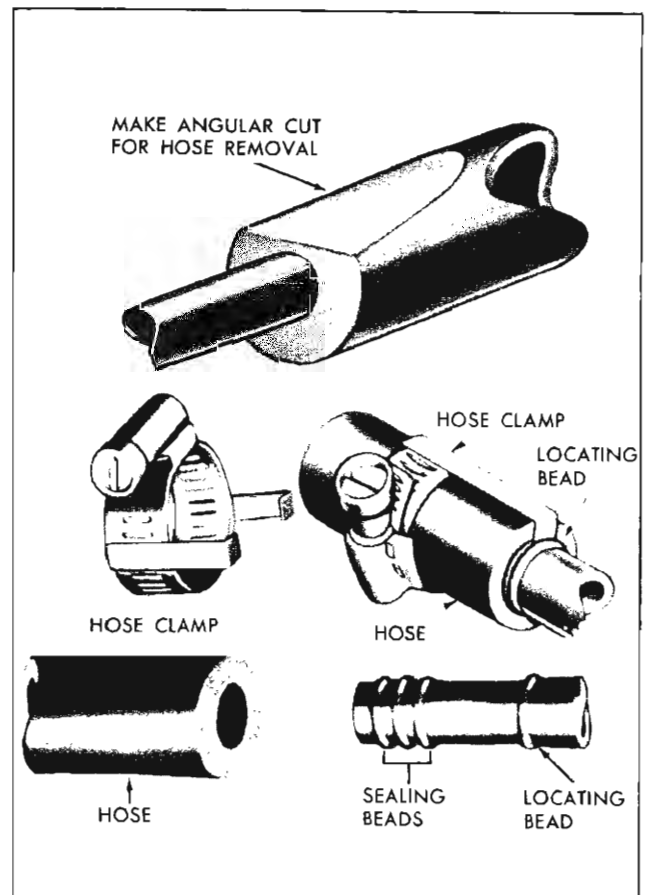

Fig. 4—Hose Clamp Connections
- When cutting the hose to remove it from a connector, use extreme care not to nick or score the sealing heads on the connection. Figure 4 shows the proper method of cutting off the hose. An angle cut as shown greatly lessens the possibility of damage to the connector.